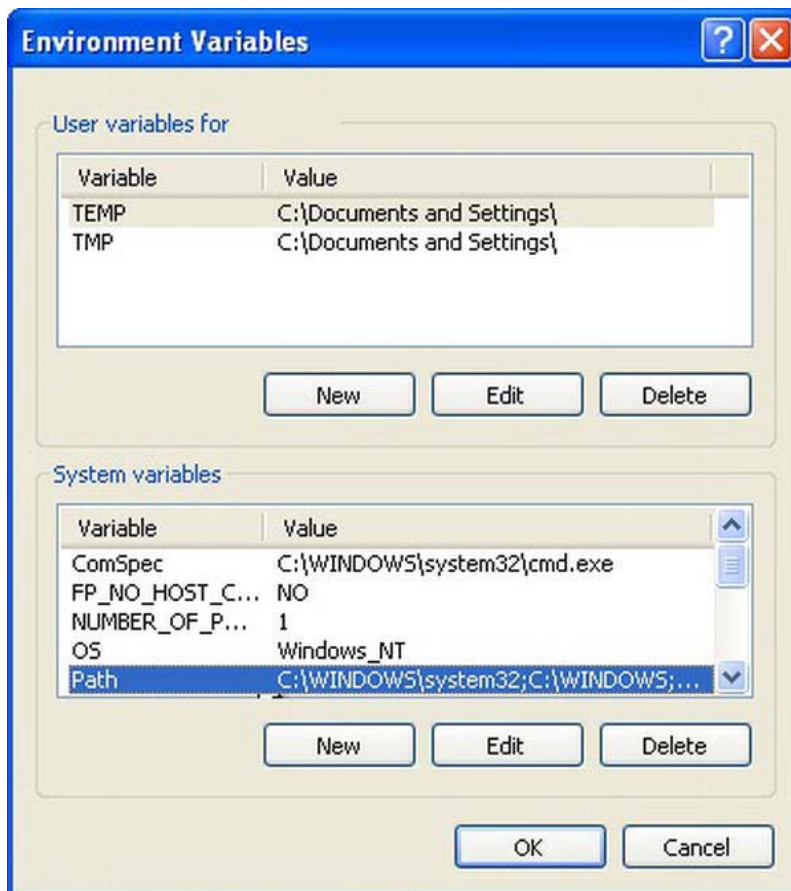

Figure 1-10. Setting up Environment Variables
5. Additionally edit the PATH variable by selecting it (Figure 1-10) and click Edit. Insert %JAVA_HOME%\bin; in front of the other values.